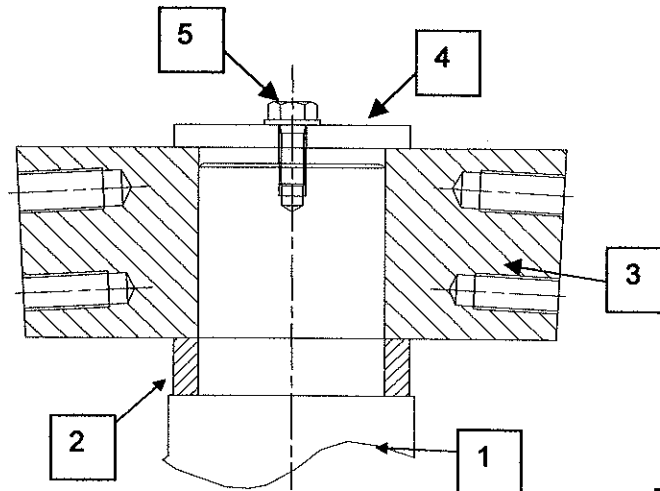

Fig.6
- a) As for the hub with cylindrical bore, the hub is bored to attach directly to the drive shaft. In this case, making reference to Fig.6, coat the output shaft (1) with a thin layer of silicone grease;
- b) Only for the hub with cylindrical bore: making reference to Fig.6, attach washer (4) to the hub and insert screw (5) (not supplied by Cofimco S.r.l.), through the center of the hub and into the shaft.